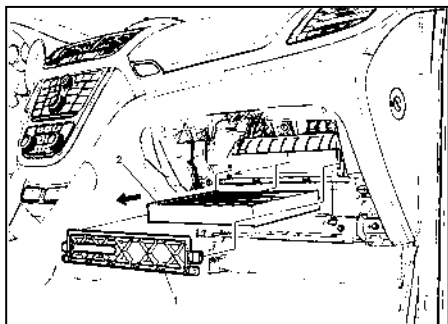

Fig. 16
4. Remove cabin air filter cover fasteners and remove cover (see Fig. 16).